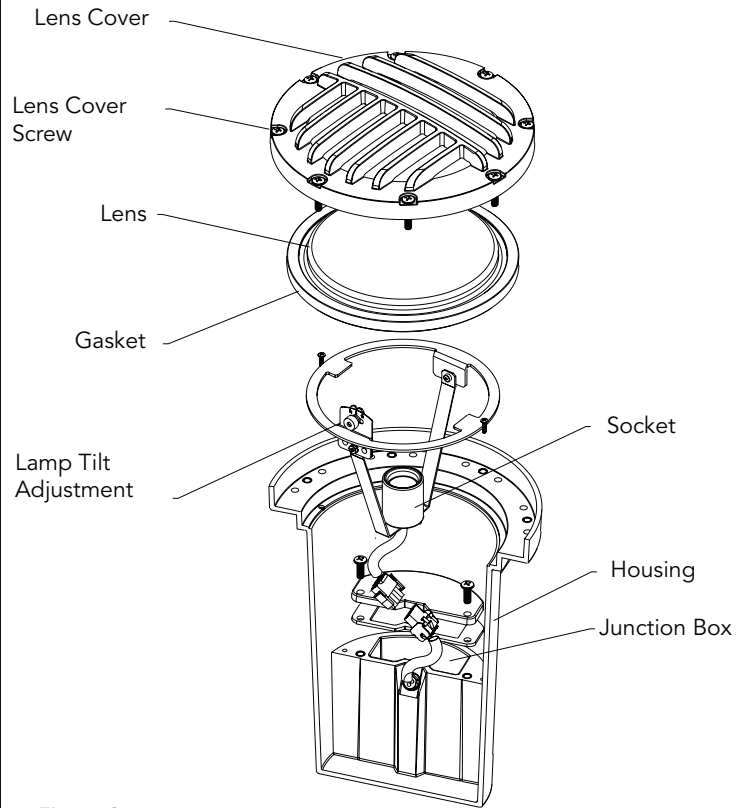

Figure 3
5. Cut off the corner of the sealant pouch and immediately pour into the wiring compartment completely covering the wirenuts (see fig. 3). Allow sealant to dry for approximately 20 minutes.